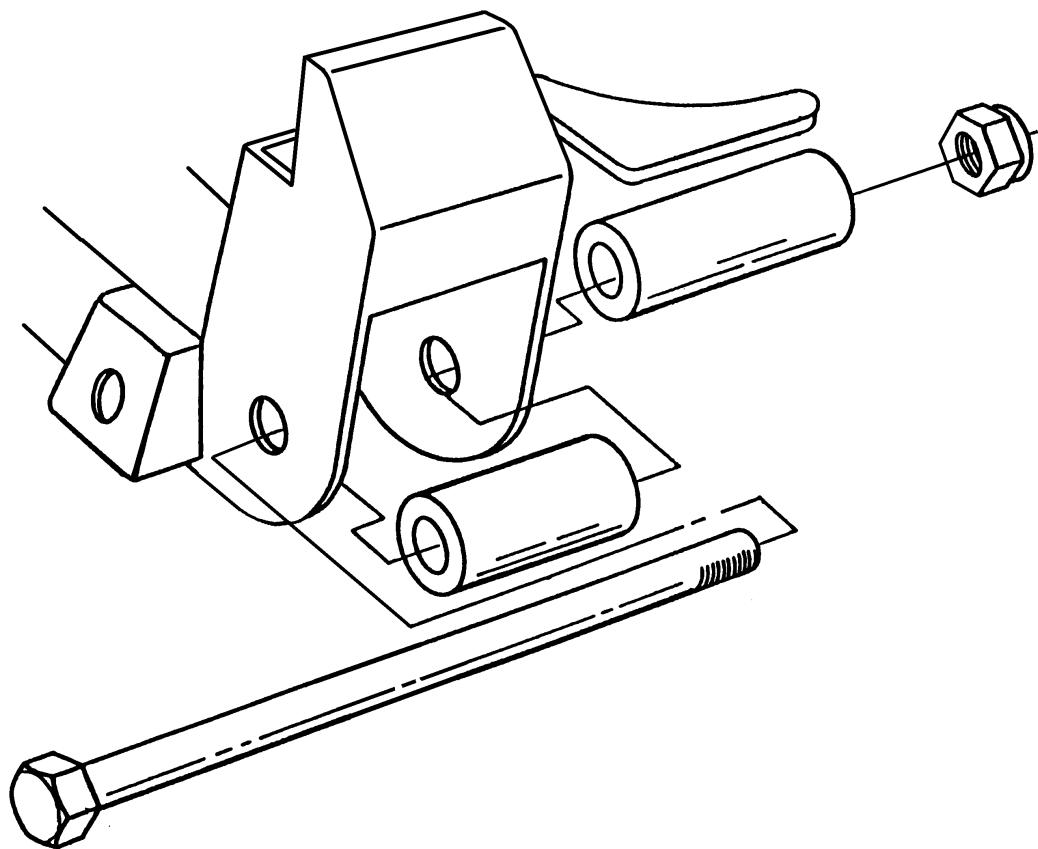

Figure 2
4. If you purchased a complete I.F.S. Package from HEIDTS, it was supplied with Full Lower A-Arms. Begin by installing the Lower A-Arms onto the crossmember. The holes where the lower control arms attach to the Crossmember must be enlarged to 5/8". Mount the Crossmember Spacers and the Rear Spacers which were supplied with the Lower Control Arms onto the Crossmember as shown in Figure 2 using the supplied Inner Bushing Bolts, Nuts and a temporary spacer under the Nuts. DO NOT use the A-Arms for this operation as the welding heat will melt the rubber bushings. Tighten the Bolts and Nuts tight. Weld the Rear Spacers to the Crossmember all around. Weld the Crossmember Spacers as far as possible inside the crossmember on both ends. Position the Gussets horizontally, not vertically, against the Rear Spacers and the back of the Crossmember. Weld Gussets to Spacers and Crossmember. When it cools, remove the bolt.